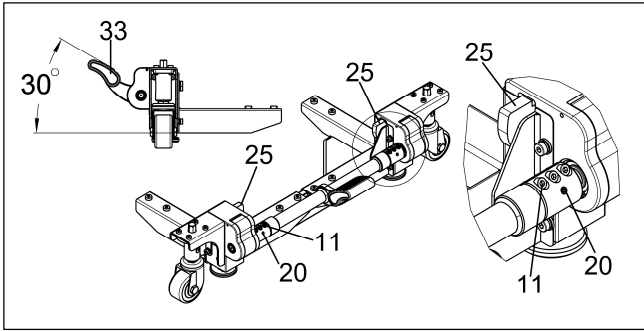

Fig.10
f. Set the two cams "25" upward to their extreme or "highest" position. Then, adjust the pedal "33" to an angle of 30° with the ground and tighten the fasteners "11" and "20". (see Fig.10)
- Step on the pedal "33". If the distance between the bottom of the pedal and the ground is too low for foot access, loosen fasteners "11" and "20" (as shown in **Fig.10**), adjust the pedal "33" upward to an
appropriate position, and tighten the fasteners again. (see **Fig.10**)